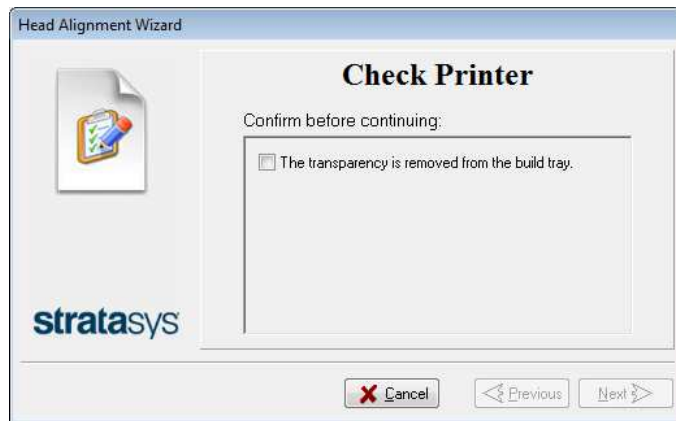

Figure 4-77 Head Alignment wizard—steps 8–10
10. In the wizard screen shown in Figure 4-77, select the *Transparency removed* check box, and click **Next**.